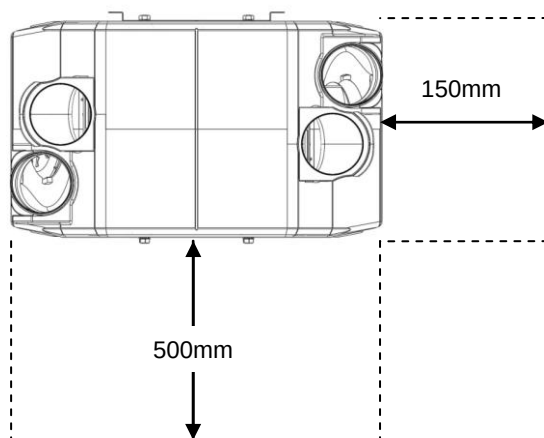

Figure 9
- 2.2.3 Consideration must be given to allow for adequate access for servicing, maintenance and any fault diagnostics (*See Figure 9 on Page 7*).